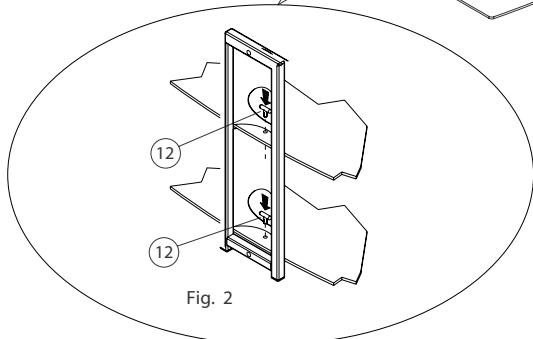

Fig. 2
- L. CAREFULLY SLIDE one of the two smaller glass shelves (11) onto the BOTTOM frame (1) with the glass shelf locking pin hole inserted through the bottom slot of the CMS® post (8). LOCK the glass shelf in place, from the rear of the CMS® post, using the supplied 'T'-shaped plastic shelf locking pin (12) as shown in Fig.2.
- M. INSERT the supplied set screws (16) part of the way into the glass shelf clips (13) and partially tighten them using the supplied Phillips driver (14) or your own screw driver, leaving enough room to slide the shelf into the clip. CAREFULLY SLIDE the second of the two smaller glass shelves (11) through the shelf support clips (13) located on the center of the two side legs (3) and (6), so that the shelf locking pin hole is inserted through the slot of the CMS® post (8). LOCK the glass shelf in place, from the rear of the CMS® post, using the supplied 'T'-shaped plastic shelf locking pin (12) as shown in Fig.2. SECURE tightly into the glass shelf clips (13) using the supplied set screws (16) and Phillips driver (14). DO NOT OVERTIGHTEN.
- N. CAREFULLY position and place the top glass shelf (17), the largest of the three shelves, and the one with the two SILVER DISCS, onto the top of the assembled furniture so that two silver discs are facing towards the rear and ALIGNED with the holes in the TOP of the CMS® post (8). Working from the REAR of the furniture, and from the underside of the top frame of the CMS® post, SECURE the TOP glass shelf (17) to the CMS® post with 2 smaller screws (9) using the supplied Allen wrench.